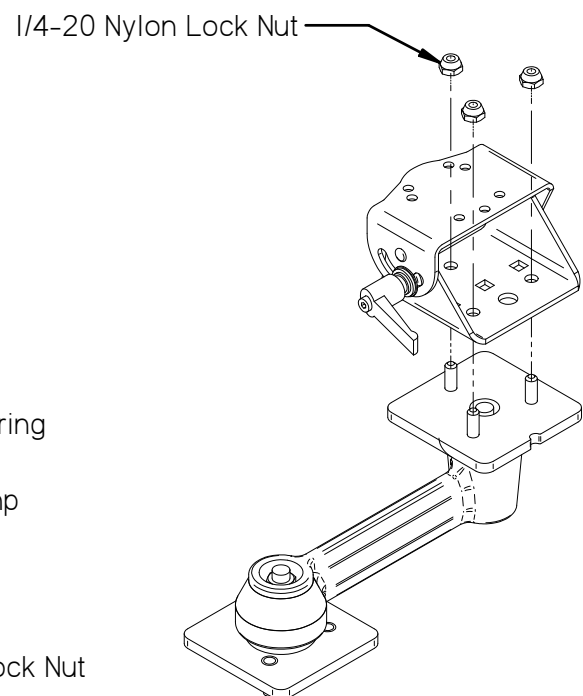

Figure 2 DS-Arm Install
2. Assemble the small clevis to the DS-Arm with the supplied (3) 1/4-20 nylon lock nuts as shown in Figure 2.